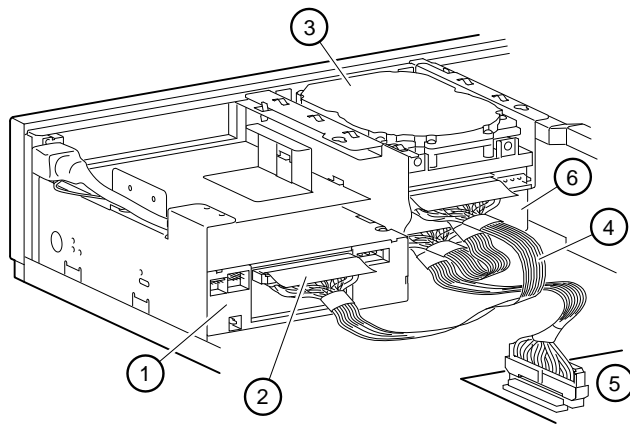

Figure 3-6. Internal SCSI Termination
SCSI drives are connected to a SCSI bus, which must be terminated at each end. Internally (inside the system box), the termination is set correctly at the factory. However, if you add or remove an internal SCSI drive, you may need to change the termination, especially if the drive you add or remove requires moving the end connector of the SCSI cable. For example, Figure 3-6 shows a typical configuration after a CD drive ① was added. Previously, the end connector of the SCSI cable ② was plugged into the hard disk ③ and the SCSI bus was terminated by the hard disk. One of the daisy-chained connectors on the SCSI cable ④ was unused. The SCSI cable originates on the motherboard ⑤ and goes first to another SCSI device ⑥.